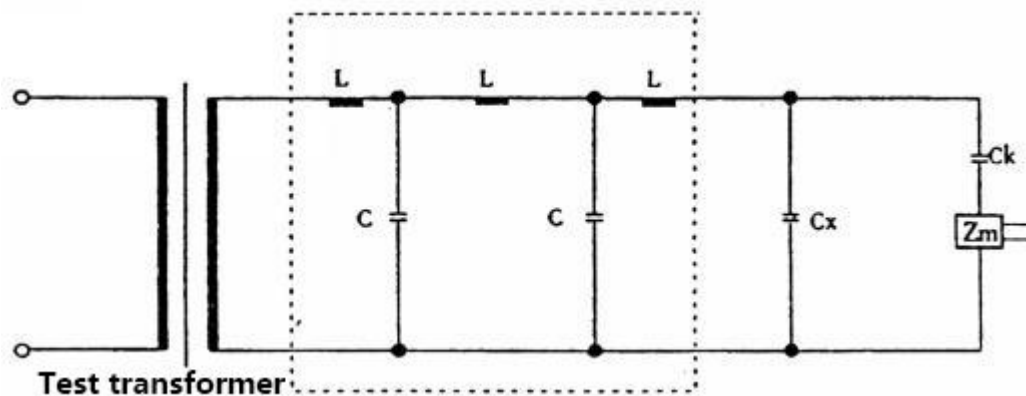

Fig. 21 High voltage filter connected to test circuit
(4) High voltage filter is used. Adding a high-voltage filter to the high-voltage side of the secondary of the test transformer can further suppress the interference of the power grid system and improve the detection sensitivity. As shown in Fig. 21, the two-stage T-shaped filter can attenuate the 30kHz signal by 60dB if $L = 0.5h$ and $C = 0.004f$. Of course, the high voltage filter must also have no discharge under the test voltage. Domestic units have used the tuned frequency selective filter in series in the high voltage lead, and the effect is also very good.